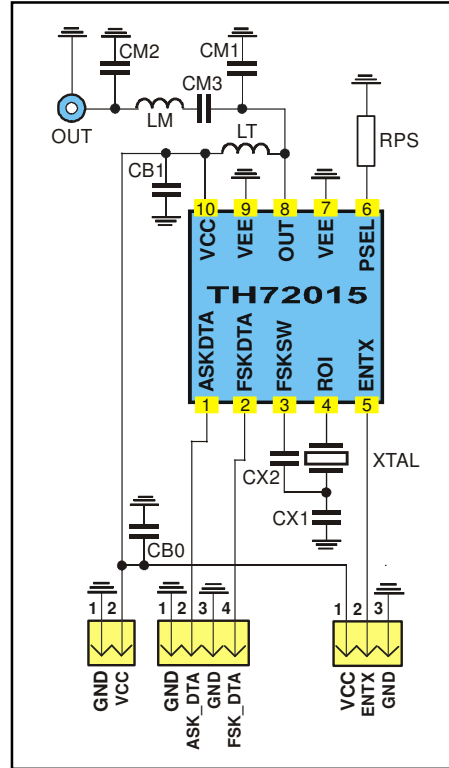

Fig. 18: Test circuit for FSK and ASK with 50  $\Omega$  matching network
typical values at  $T_A = 23\text{ °C}$  and  $V_{CC} = 3\text{ V}$ ; test circuit shown in Fig. 18,  $f_c = 433.92\text{ MHz}$
- Data according to test circuit in Fig. 18
### 6.1 Test circuit component list to Fig. 18